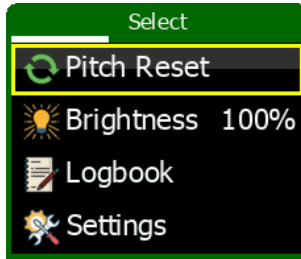

Figure 28: Illustration of Horis main menu. The **Pitch Reset** option is the default one. Slave Horis menu is slightly different.
- Open the main menu by pushing the knob for a few seconds. The **Pitch Reset** option is selected by default. See Figure 28.